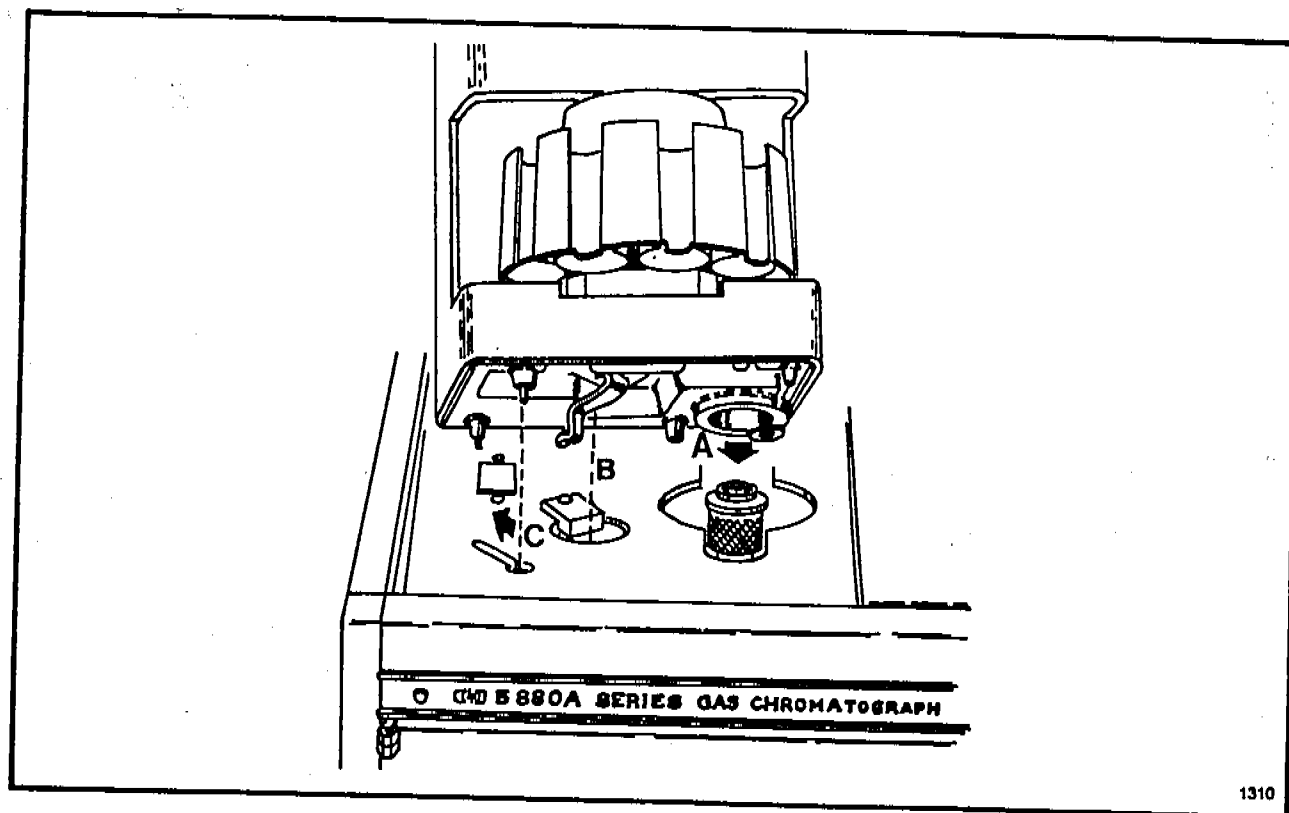

Figure 2-19. Injector Mounting Details, Front Position
1. Using Figure 2-19 or 2-20 as a guide, position the injector over the injection port. Align the opening in the base of the injector (detail "A") over the septum nut. At the same time align the bayonet type spring clip (detail "B") and the alignment pin (detail "C") with their locating holes in the mounting plate.